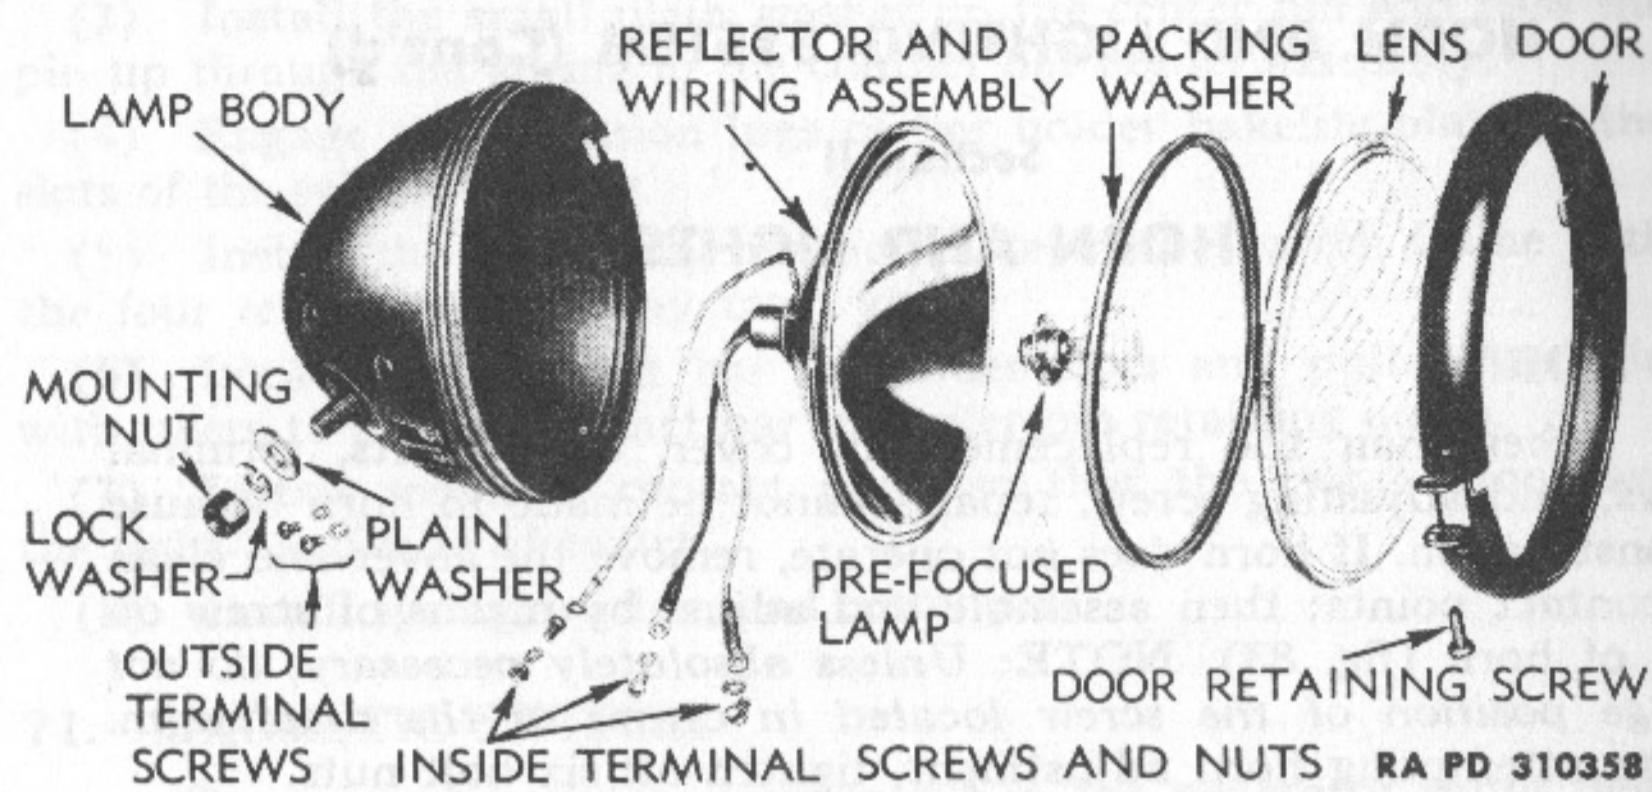

Figure 84—Service Headlight, Disassembled
a. If the service headlight body and/or mounting stud are damaged, replace with a new body. Other components of the headlight assembly are easily replaced (fig. 84). Use prefocused lamp (32-21 CP, 6 V double contact).